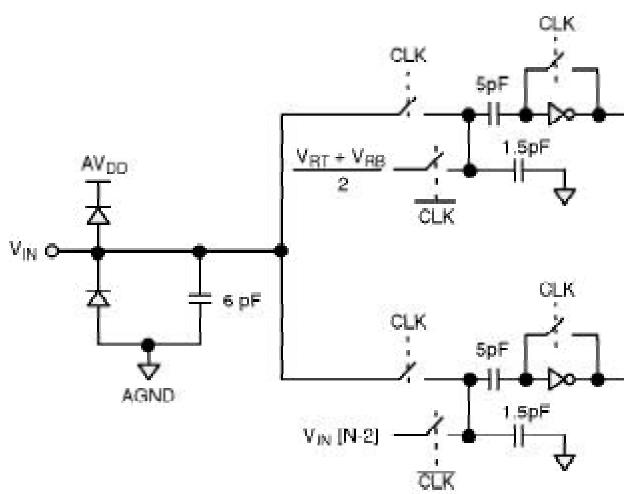

Figure 5. Equivalent Input Circuit
5. See  $V_{IN}$  input equivalent circuit (Figure 5). Switched capacitor analog input requires driver with low output resistance.
The reference can be biased internally by shorting  $V_{RT}$  to  $V_{RTS}$  and  $V_{RB}$  to  $V_{RBS}$ . This will generate 0.4V at  $V_{RB}$  and 1.72V at  $V_{RT}$  (see Figure 5).